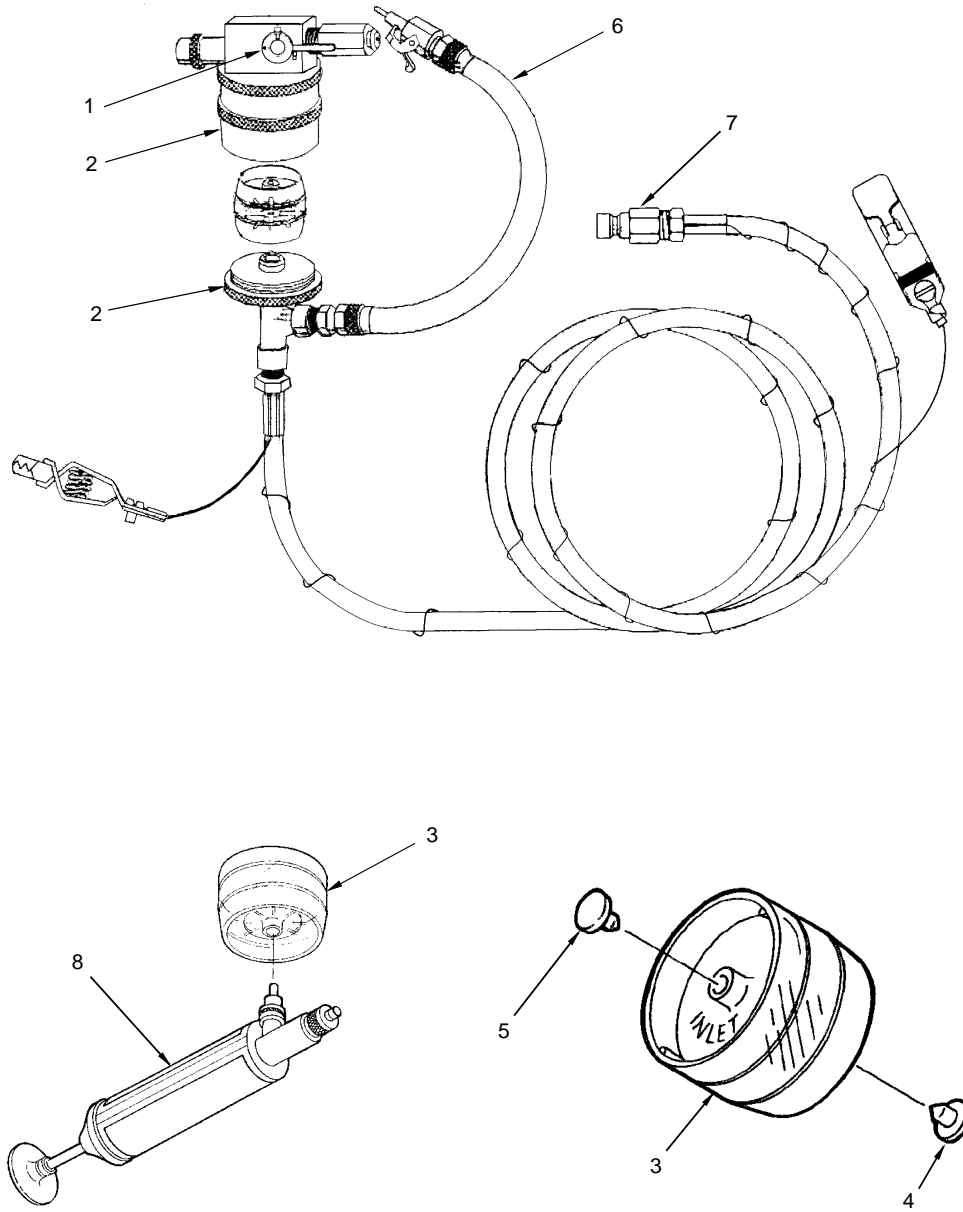

Figure 9. Particulate Fuel Contamination Test
- c. Verify the three position lever (figure 9, 1) on the monitor housing (2) is in the STOP position.
- d. Separate the monitor housing (2).
- e. Select a monitor (figure 7, 20). Use a contamination monitor (figure 9, 3) (blue and red protective plugs) for color comparator testing or a matched-weight monitor (yellow and red protective plugs) for gravimetric testing.
- f. Remove the bottom protective plug (4) (outlet) from the monitor (3) and place it in a clean, safe place.
- g. Position the monitor (3) in the monitor housing (2).
- h. Remove the other protective plug (5) (inlet), from the monitor (3) and place it in a clean, safe place.
- i. Reassemble the monitor housing (2) hand tight only. Extreme force is both unnecessary and undesirable.
- j. Ensure that the monitor housing bypass line (6) is connected to the valve body on top of the assembly. Place the monitor housing assembly open line (7) in a container of at least 1.3 gal (5 l) capacity.
- l. Verify the three position lever (figure 9, 1) is in the OFF position.
- r. Remove the monitor (figure 9, 3) from the monitor housing (2) and attach the syringe (8) to the lower opening (spiderweb side) of the monitor (3).
- s. Pull outward on the syringe (8) handle to draw residual fuel from the monitor (3). If fuel remains in the monitor (3), disconnect the syringe (8) and expel the collected fuel into a suitable container. Repeat the procedure as necessary to withdraw all the fuel from the monitor (3).